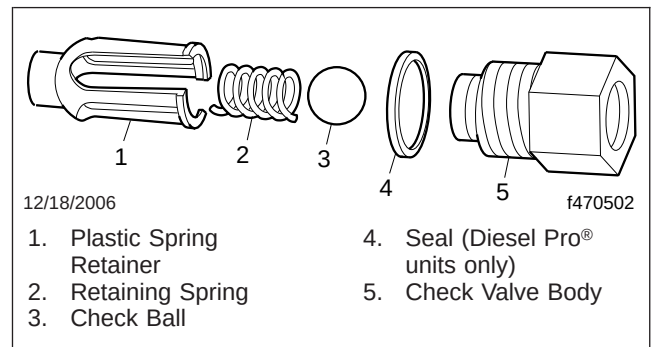

Fig. 2, Check Valve Assembly
6. Remove and discard the check ball, spring, and plastic retainer. See **Fig. 2**.